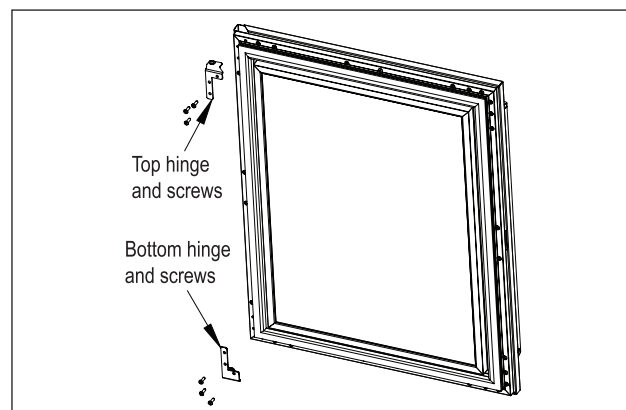

Figure 9: Door Hinges
10. Attach the top and bottom door hinges using screws removed in step 6 (Figure 9).